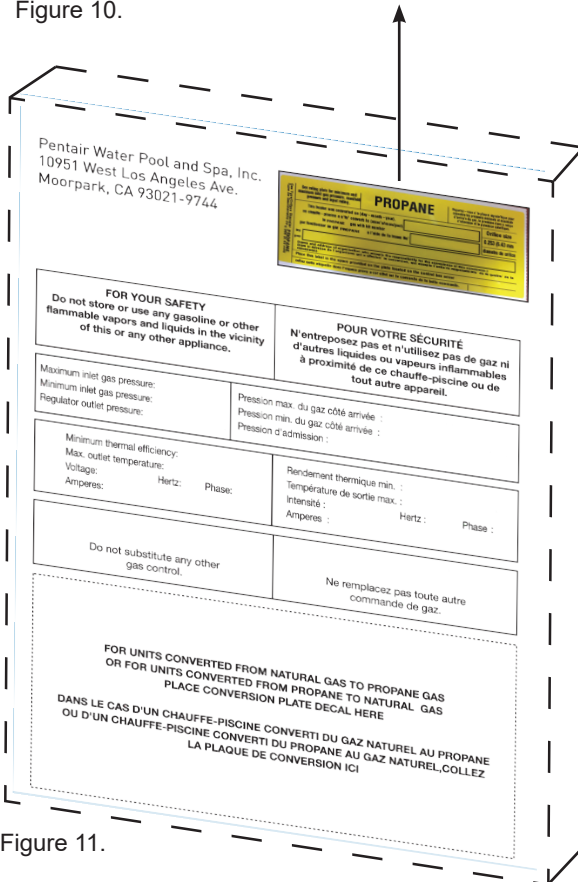

Figure 11.
18. **IMPORTANT:** Using a permanent fine-tip marker, mark on the conversion label the date of conversion and the name and address of the party making the conversion. Attach the conversion label on the area reserved for it on the existing appliance label. Using an alcohol swab, clean the surface before attaching the label. See Figure 11.